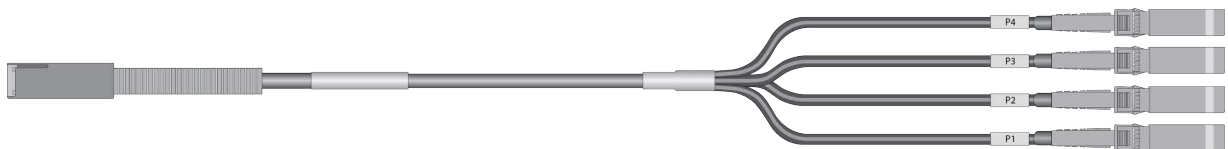

Figure 18. Copper Breakout Cable
- ❑ Each port can be converted from one 40Gbps port into four 10Gbps ports with breakout cables of 3 and 5 meters in length. Refer to Figure 18.